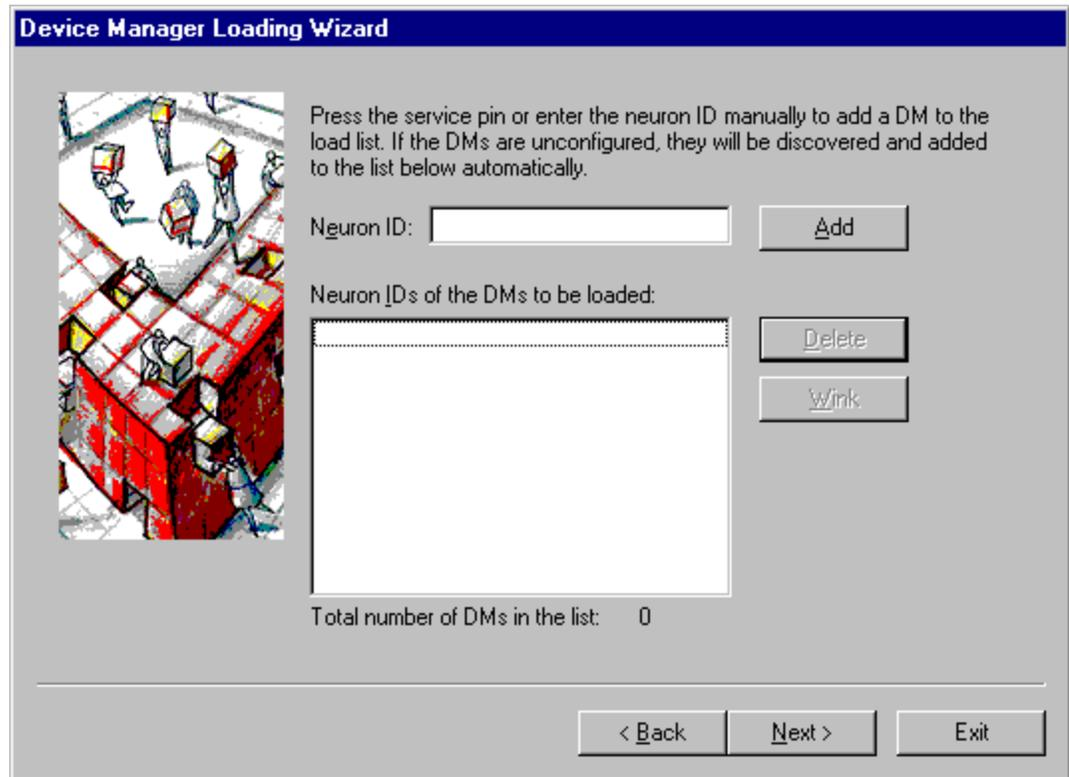

Figure 5.9 – Press Service Pin
16. Click Next. The window in figure 5.9 will appear: